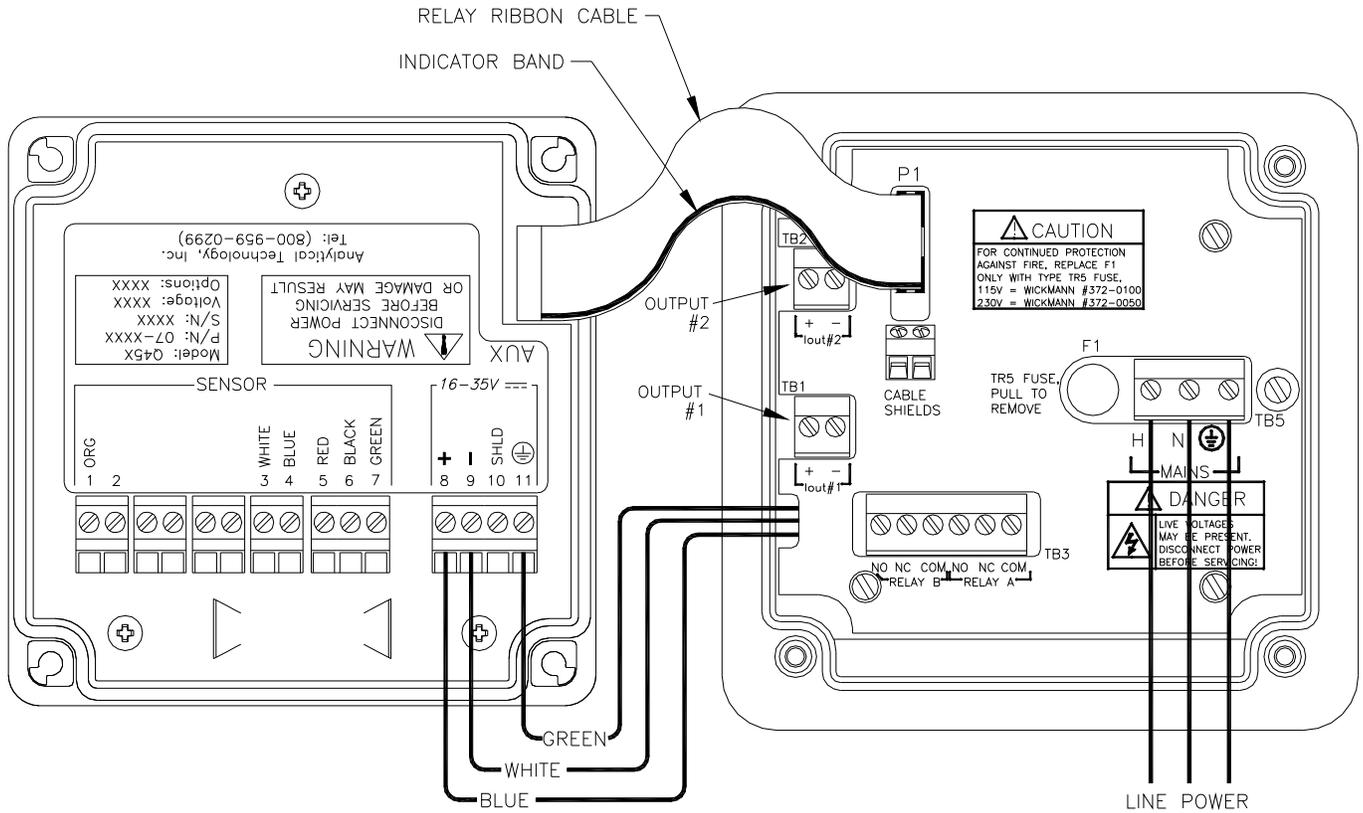

Figure 10 - Line Power Connection
1. Use wiring practices that conform to all national, state and local electrical codes. For proper safety as well as stable measuring performance, it is important that the earth ground connection be made to a solid ground point from terminal 12 (Figure 10). The AC power supply contains a single 100mA (115V) or 50mA (230V) slo-blo fuse. The fuse **F1** is located adjacent to **TB5** and is easily replaceable.
A ribbon cable connects the power supply assembly with the microprocessor assembly located in the front section of the enclosure. This cable can be removed during installation to facilitate wiring if desired. It is best to unplug only one end. The ribbon cable has a marking stripe on one edge that is used to indicate proper orientation. The indicator stripe should be on the bottom edge of the cable when installed as shown in Figure 10